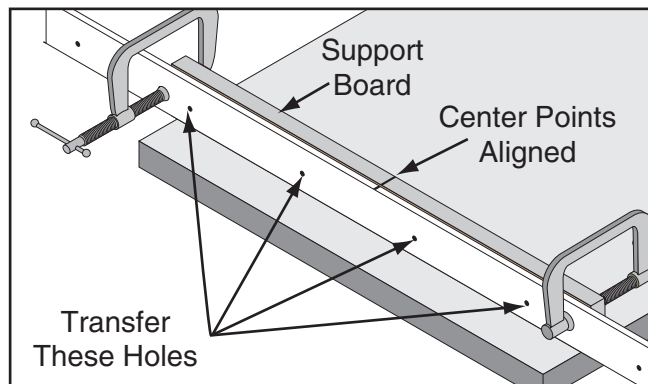

Figure 18. Fence and board lined up and clamped to transfer screw hole positions.
6. Use the table saw fence face as a template to transfer the screw hole positions onto your fence board (**Figure 18**). Use a center punch or long nail to mark the holes.